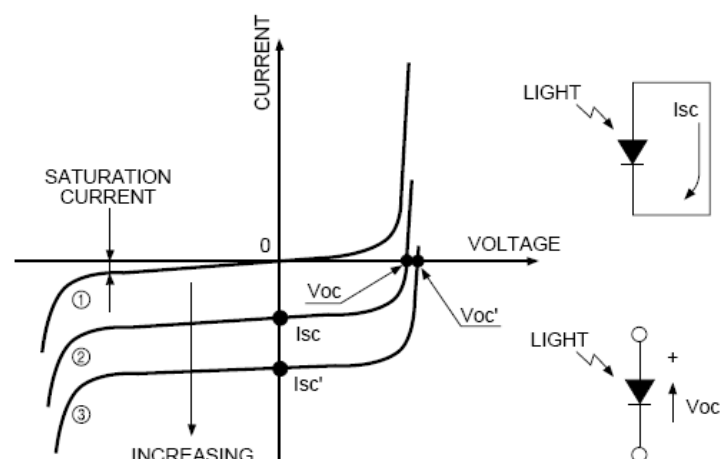

Figure 1 Current Voltage Characterisation
The second link points to a very complete document. On page 7 of this document is Figure 1 shown to the right. This highlights some of the characteristics of the photodiodes, as does Figure 2-5 in the same document.
- The requirement is to provide a plan to obtain the photodiode characterisation curves with different amounts of illumination, as shown in Figure 1.